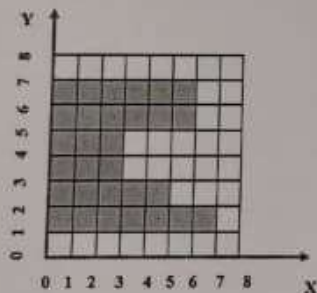

Fig. 2
6. For the schematic figure as shown in Figure 2, determine the following parameters. [5] CO3 BL3